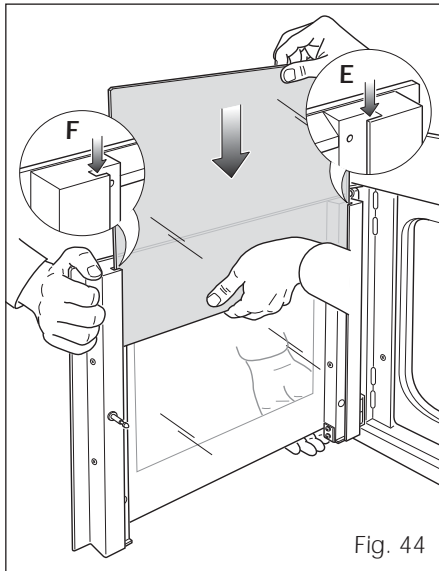

Fig. 44
- Whilst one person holds the door still, a second person should insert the inner pane in the left **E** and right **F** side guides (fig. 44) and gently let it slide up to the retainers **H** (fig. 45).